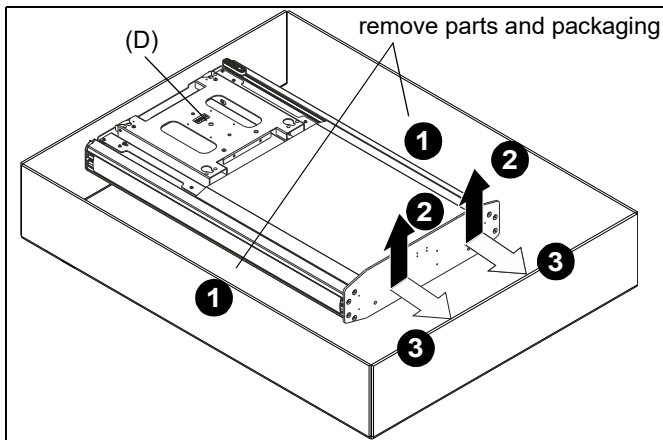
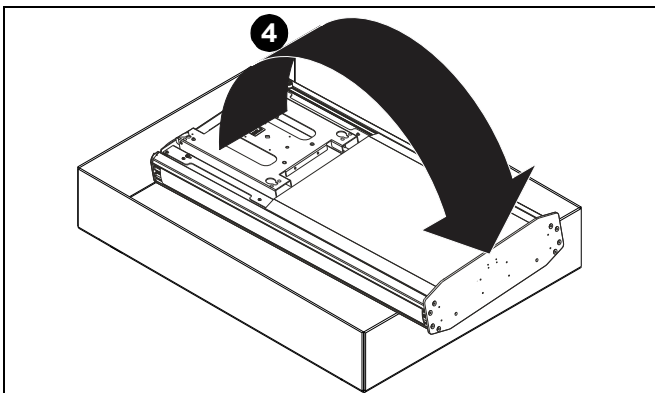

Figure 1
Figure 2
1. Remove all parts and extra packaging from sides of box leaving only the column assembly (D) in the box. (See Figure 1)
2. Lift column assembly (D) up using the two finger tabs at the bottom of the assembly. (See Figure 1)
3. Carefully set column assembly (D) base on the edge of box. (See Figure 1) and (See Figure 2)
4. Remove stand from box by tipping it from the top onto its base. (See Figure 2)